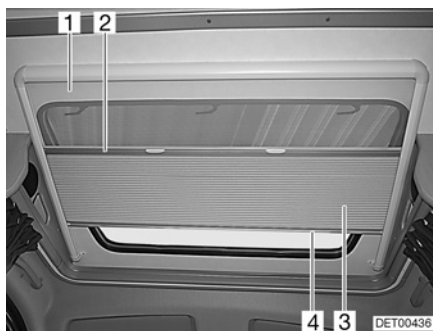

Fig. 32 Sunroof
Roman shade The Roman shade (Fig. 32,3) is permanently connected to the insect screen (Fig. 32,1).
- Hold the Roman shade in the centre of the bottom rod (Fig. 32,4) and carefully draw it downwards.
- Slowly return the Roman shade to its initial position with the bottom rod (Fig. 32,4).
- Hold the insect screen at the centre of the bottom rod (Fig. 32,2) and carefully pull it downward as far as it goes.
- Slowly return the insect screen on the bottom rod of the Roman shade (Fig. 32,4).